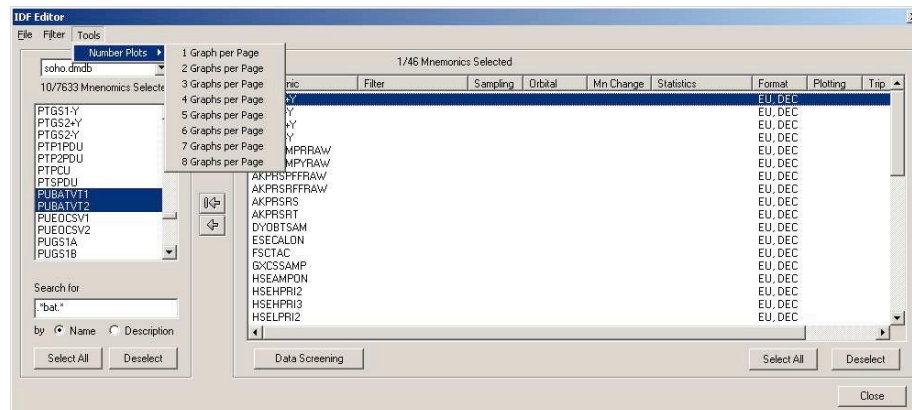

Figure 69: Plot Graphs per Page Selection
To prepare an IDF file for use in printing, users must set a plot page and graph number. For plot generation with a fixed number of graphs per page (ranging from 1 to 8), select “Tools” | “Number Plots “ from the IDF Editor screen (see Figure 69). More complex page and graph settings (such as those required for mnemonic vs. mnemonic plots) are described in Section 6.7.7.1.
- Select one or more mnemonics on the right side of the IDF Editor main window (*Figure 69*).